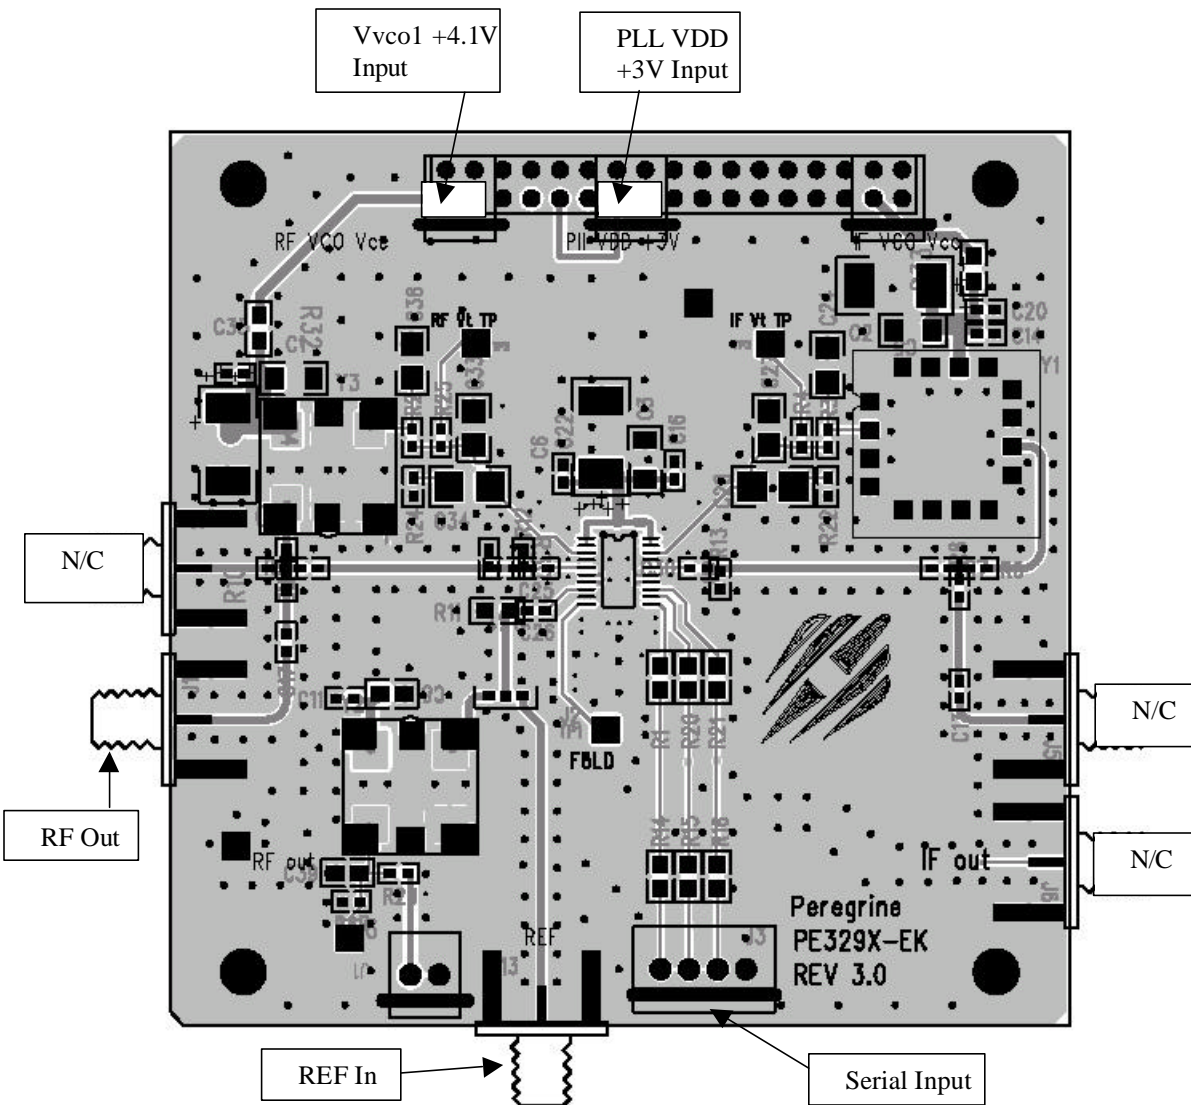

Figure 1: PE3293 Evaluation Board Configuration for PE3293 in TSSOP Package.
The primary test setup uses a spectrum analyzer to measure center frequency, output power, spurious outputs, crosstalk and phase noise. The configuration used to test the PE3293-EK at our facility is shown in *Figures 1 and 2* for the evaluation kit with the PE3293 in TSSOP and BCC package, respectively.
Connect the PE3293-EK to suitable power supplies as shown in *Fig. 1 or 2*. The VDD to the PE3293 is +3 volts. Although VCO1 needs only 3.3V, 4.1V is needed at V_{VCO1} terminal to compensate the voltage drop through a 100-ohm resistor. Because the PLL2 (IF) is not populated, no power supply is required for the V_{VCO2} terminal. Connection can be made using dedicated wires soldered into the supply holes or polarized pin plugs supplied with the evaluation kit.